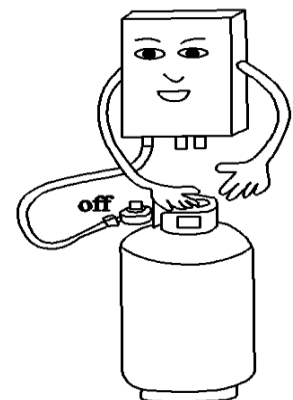

Fig.10
- Turn off the gas valve after each shower (Fig.10).
- Check whether the flame is extinguished after each shower and do not forget to turn off the gas valve (Fig.10)